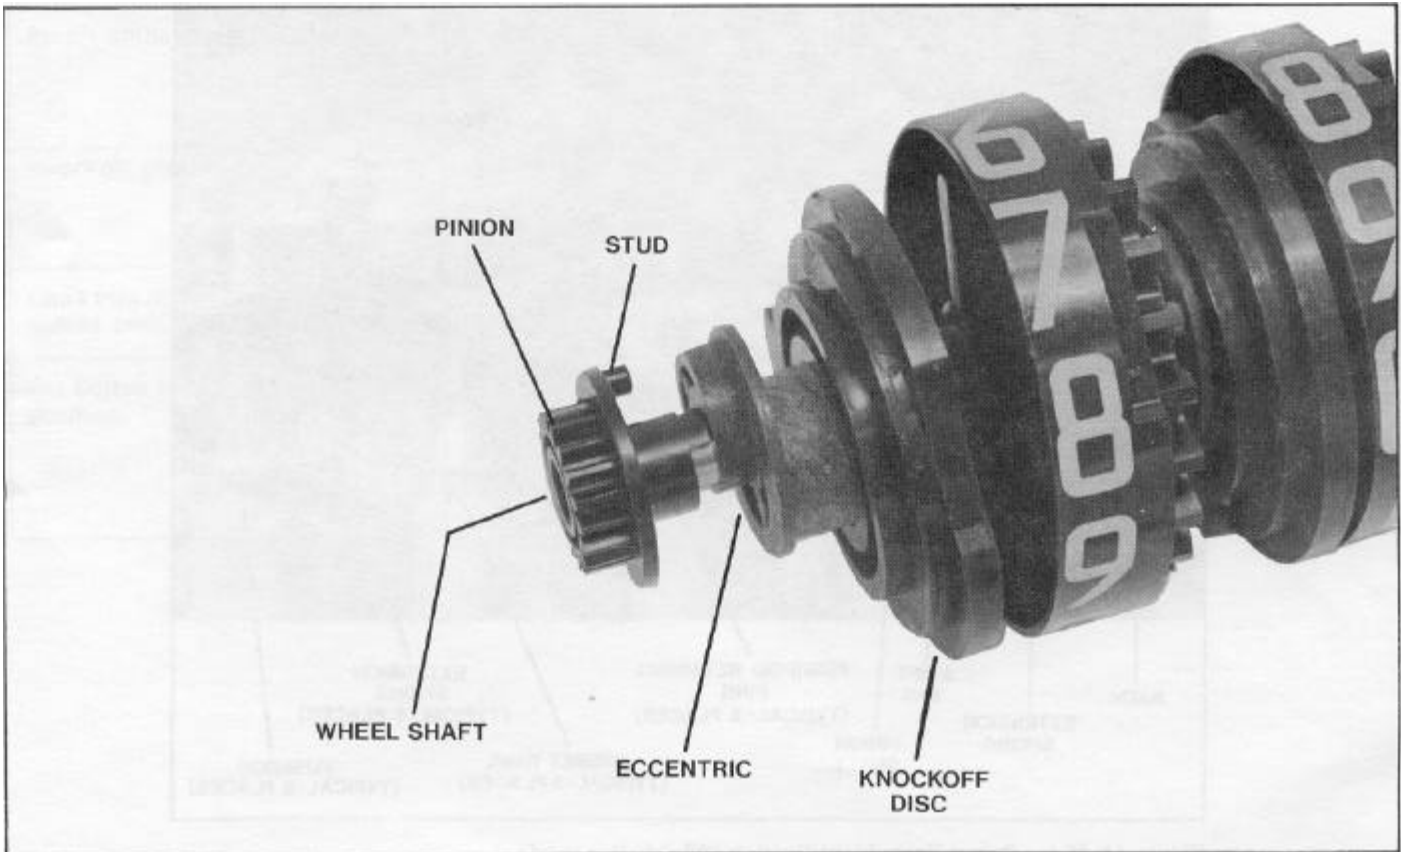

Figure 13. Character Wheel Shaft Group Parts Identification.
Note: When installing wheel shaft group in Preset, ensure that stud on wheel shaft pinion (Figure 13) is straight up and SET button is out in the "run" position.
7. Install large extension spring between tab on knockoff plate and strap that secures left side of wheel shaft (Figure 13).